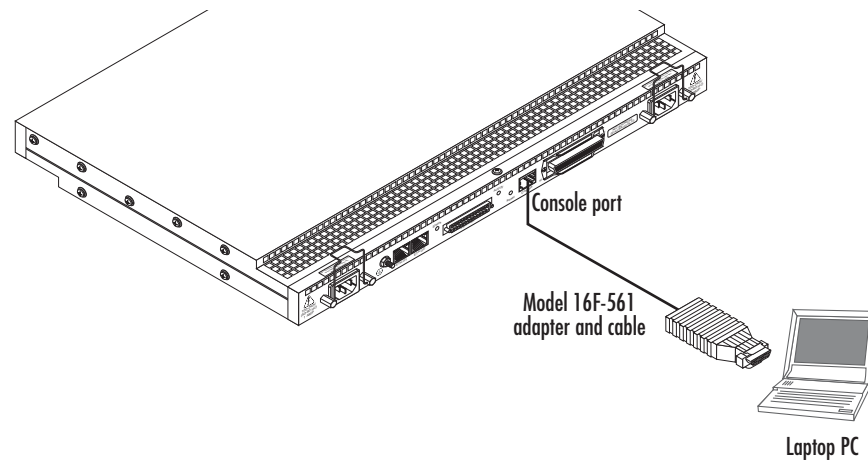

Figure 14. Connecting the SmartNode to your laptop PC
1. **Configuring the desired IP address** (see figure 14). Refer to section “2. Connecting the SmartNode to the network” on page 41 for details.